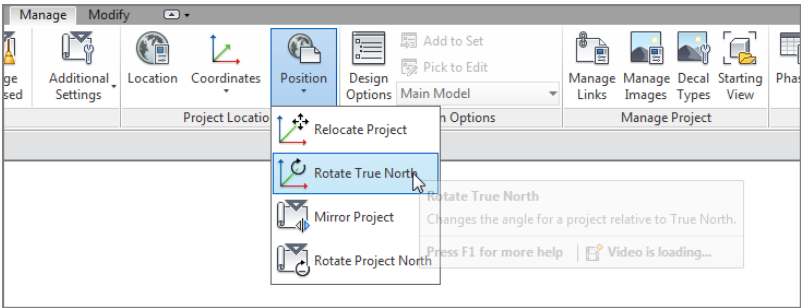

FIGURE 18.27: Rotating true north
2. On the Manage tab, click Position > Rotate True North, as shown in Figure 18.27.